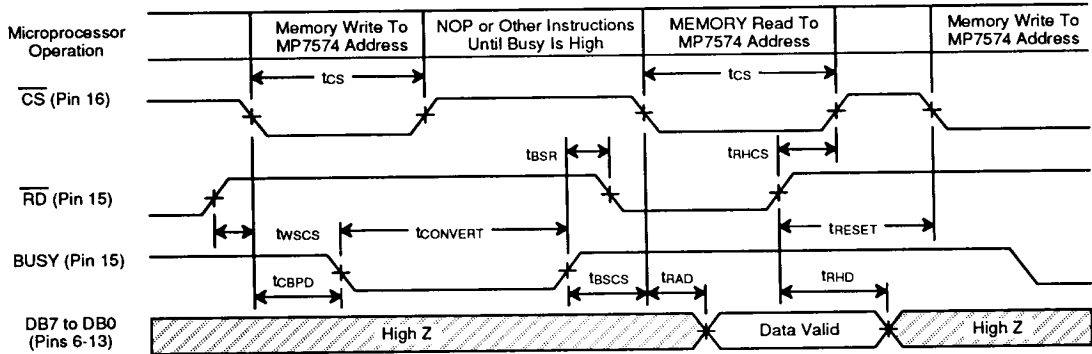

Figure 1. Static RAM Mode Timing Diagram
STATIC RAM INTERFACE MODE (See Figure 1. and Table 1.)
Table 1. and Figure 1. show the truth table and timing requirements for MP7574 operation as a static RAM.
- Timing & Control:** In the MP7574 when a conversion is finished the fresh data must be read before a new conversion can be started. Failure to observe the timing restrictions of Figures 1, 2 or 3 may cause the MP7574 to change interface modes. For example, in the RAM mode, holding \overline{CS} LOW too long after \overline{RD} goes HIGH will cause a new convert start (i.e. the converter moved into the ROM mode).